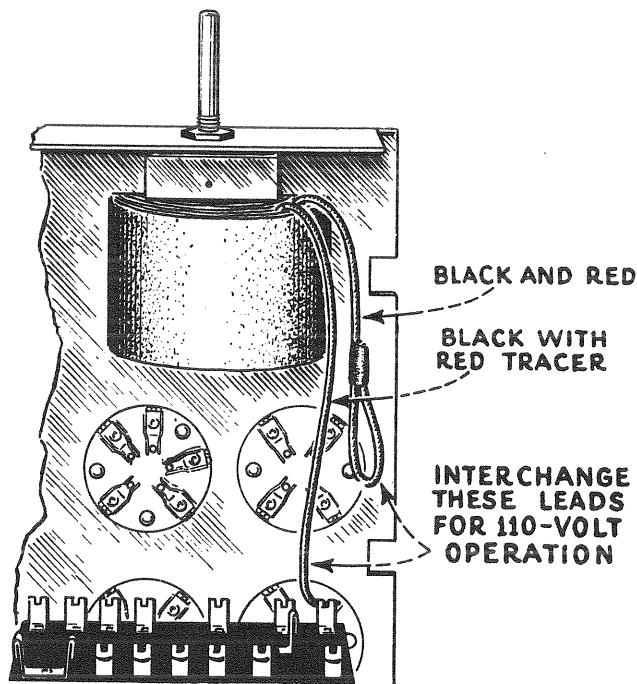

Figure 6—Changes Necessary for 110 Volt Operation on 25 Cycle Models
- (b) A black and red transformer lead, taped up and not used, will be found on the underside of the chassis. Also a black with red tracer transformer lead is soldered to a terminal on the resistor board. (See Figure 6.)